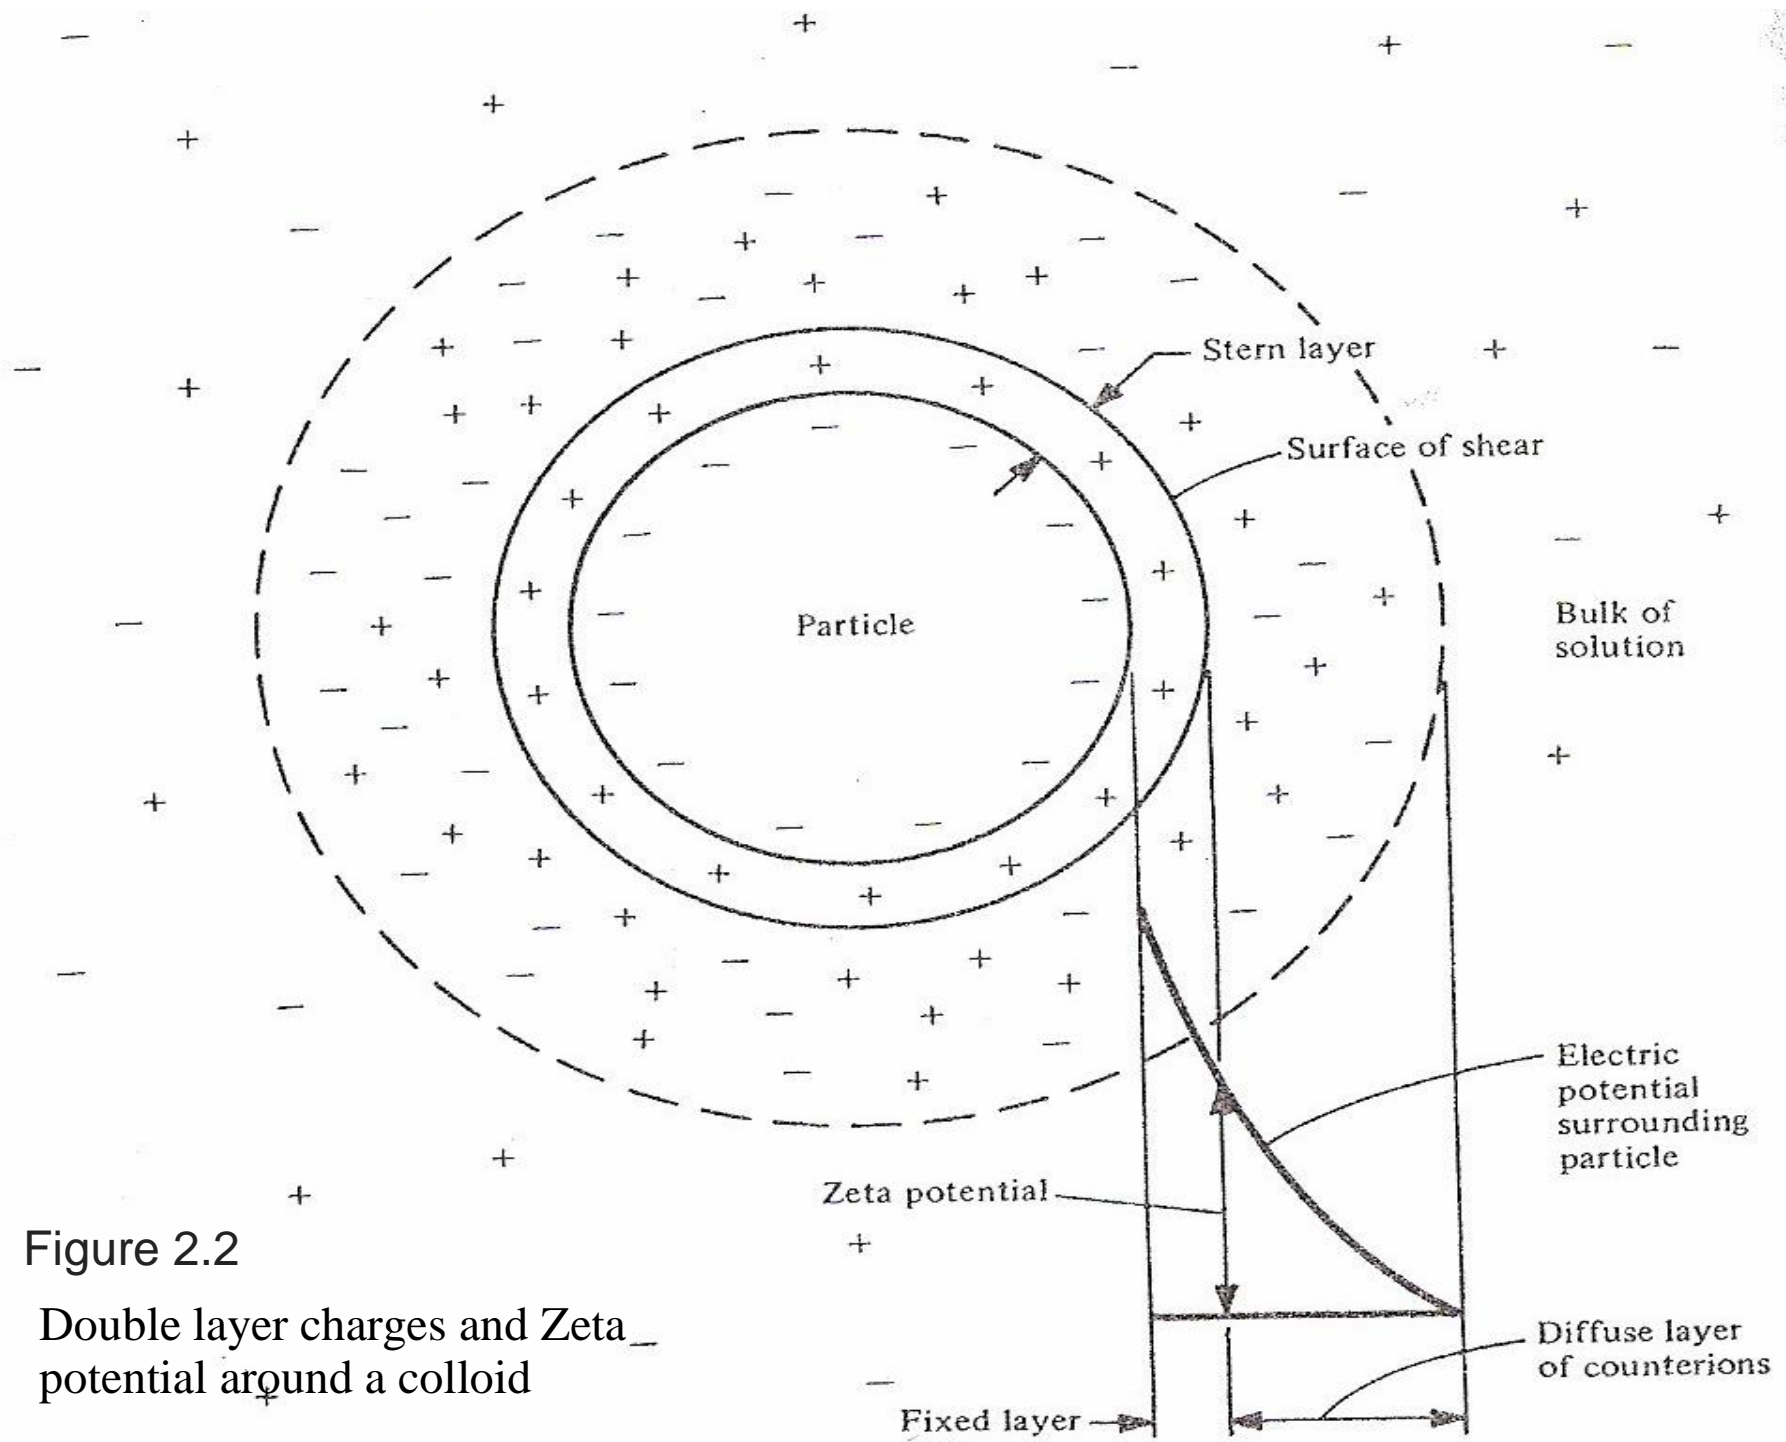

Figure 2.2
- The positive charge attached to the colloid in the **stern layer** is not enough to neutralize the negative charge of the colloid. So there is a net electrical potential around the colloid as shown in the Figure 2.2.